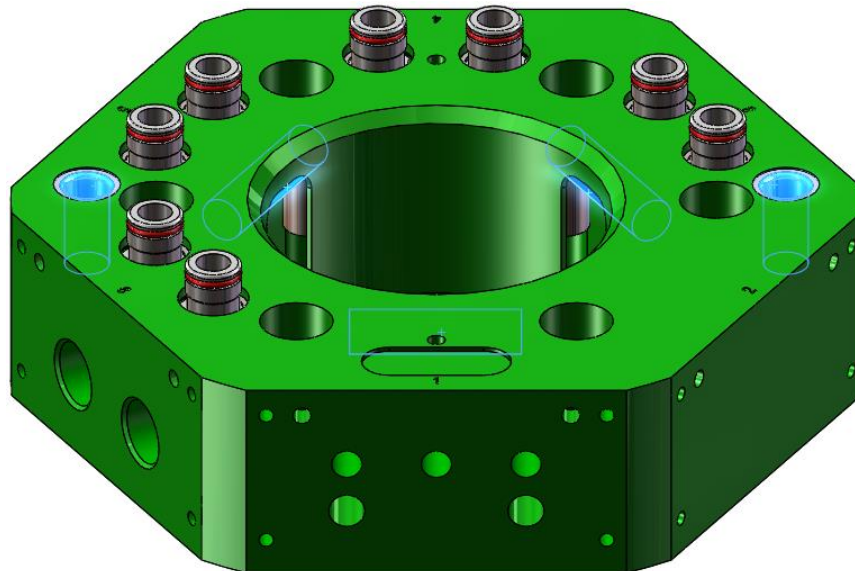

Figure 8.1.1.1-1. ET125LP Tool Side Lubrication
2. Apply a liberal coating of white lithium grease to the latching surfaces and to the inner surface of the locating/alignment bushings, as shown in Figure 8.1.1.1-1 with the surfaces highlighted blue.
3. Apply a thin coating of Lub-A-Cyl to the O-ring surfaces on the valve fittings as shown in Figure 8.1.1.1-1 with the surfaces highlighted red.